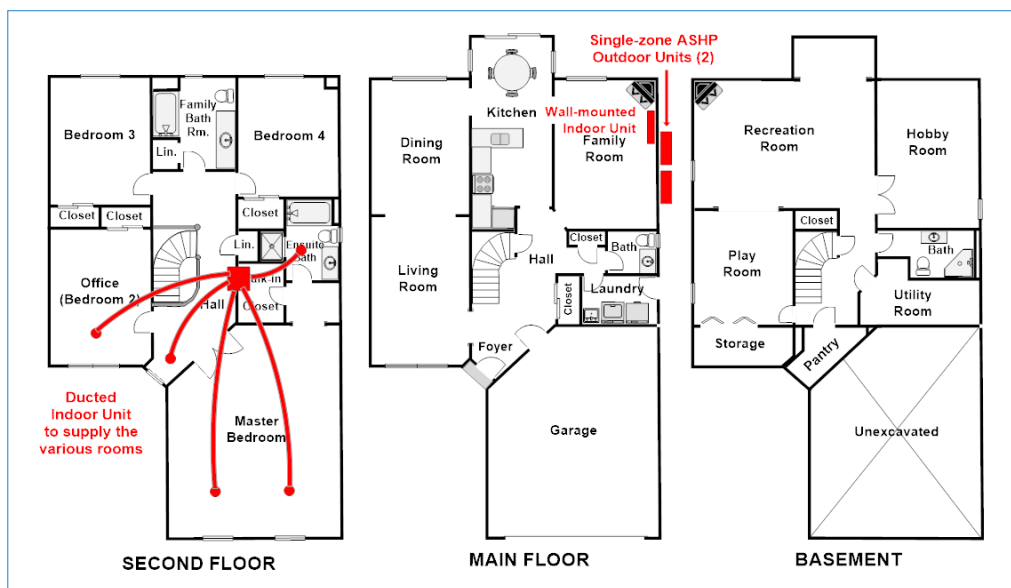

Figure 18: Type and location of the Indoor units in the two Targeted Areas
- The second-floor area will use a ducted unit (Option 2D) installed in the attic space near the attic access hatch and will be ducted to the various rooms as shown in Figure 18.